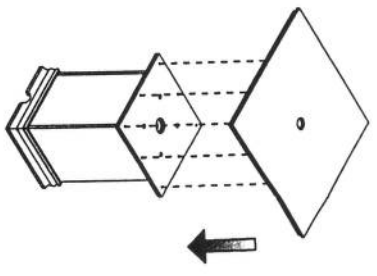

FIGURE 1
1. Locate the top on the table (fig. 1).